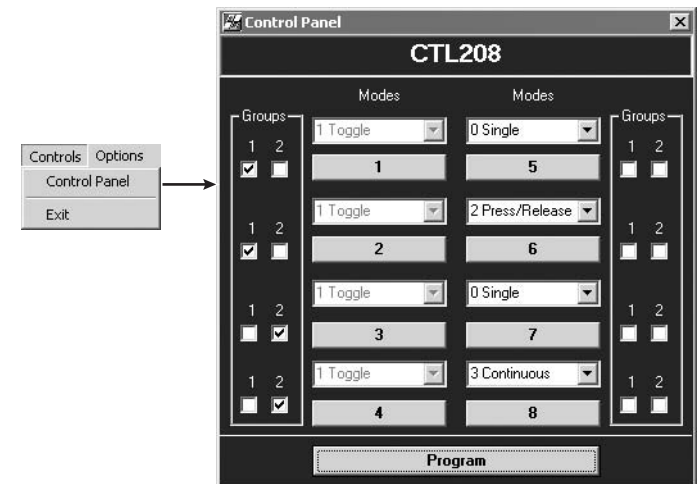

Figure 4-5 — CTL208 control panel window
2. Click *Controls > Control Panel*. The CTL208 control panel (figure 4-5) appears.